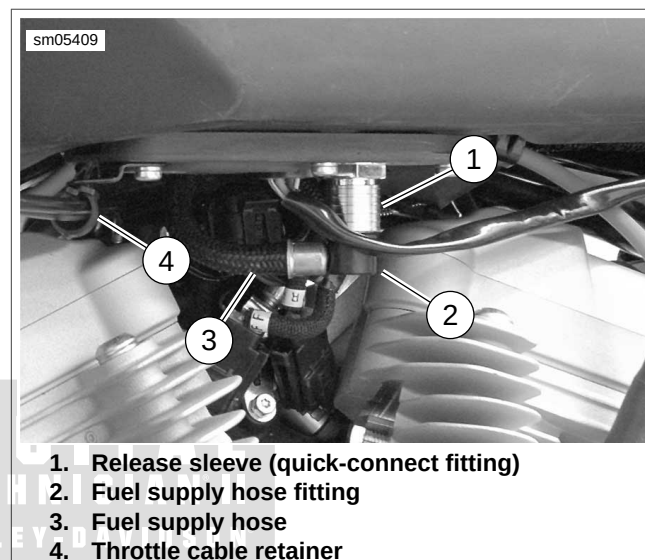

Figure 4-20. Fuel Tank Quick-Connect Fitting
2. See Figure 4-20. Push up on release sleeve (1) on fuel pump quick-connect fitting and pull down on fuel supply hose fitting (2) to disconnect fuel supply hose (3). Immediately clean up any fuel spills.
4. See Figure 4-20. Remove retainer (4) securing throttle cables to plate on bottom of fuel tank.
- See Figure 4-20. Secure throttle cables to bottom of fuel tank using a **new** loop retainer.
1. See Figure 4-20. Push up on release sleeve (1) and push fuel hose fitting (2) into fuel pump module fuel pump quick-connect fitting. Pull down on release sleeve to lock quick-connect fitting. Tug on fuel hose fitting to make sure it is securely locked in place.